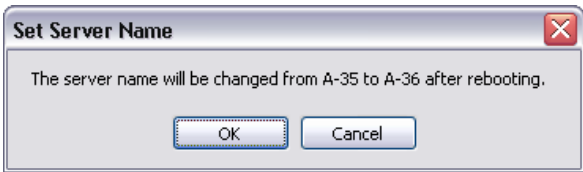

Figure 4-17 NEXIO Config — Set Server Name
- The **Set Server Name** dialog box appears asking you if you want to change the name (see Figure 4-17).